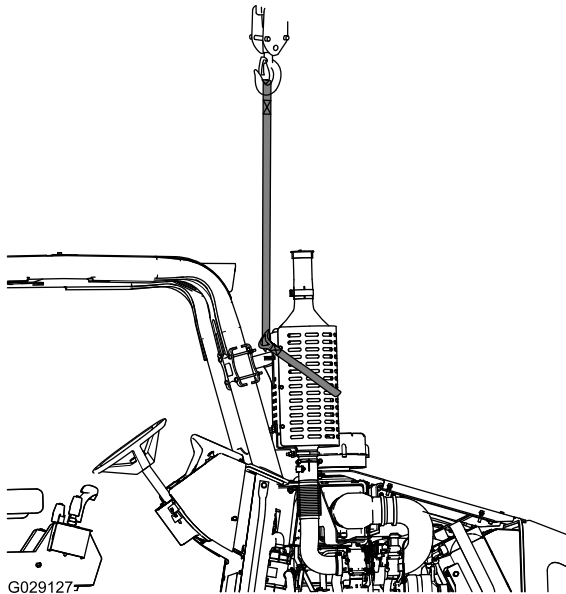

Figure 7
1. Support the exhaust system with lifting equipment (Figure 7).